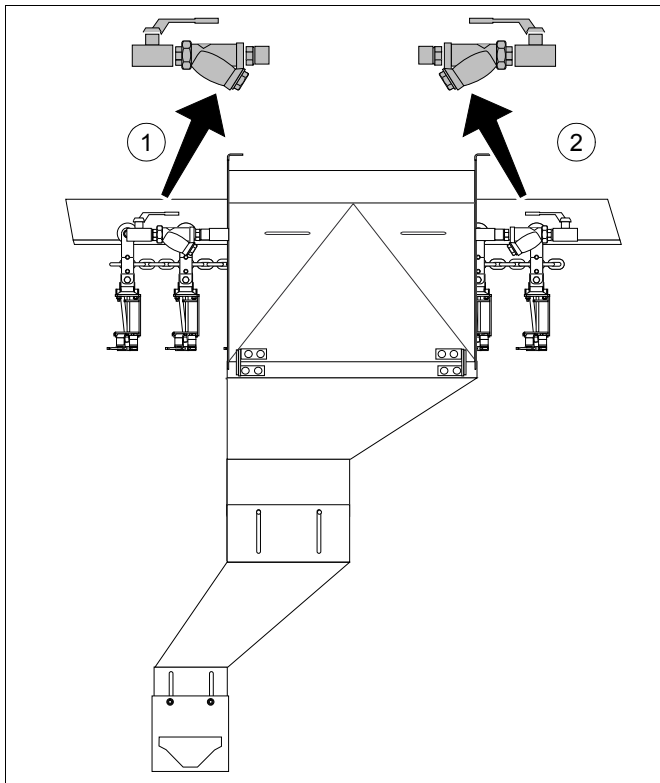

fig. 24 Water connection
- Connect point 2 to the cleaning system. For connection and consumption details consult the "Technical Data". See fig. 24.